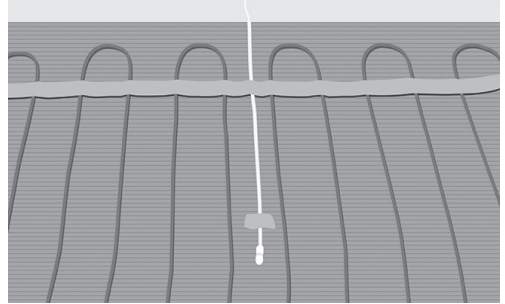

Fig. 12. Place conduit pipe/sensor between two cables
11. Place and fix conduit pipe or floor sensor if no conduit pipe is installed. Seal the end of the conduit pipe (Fig. 12).